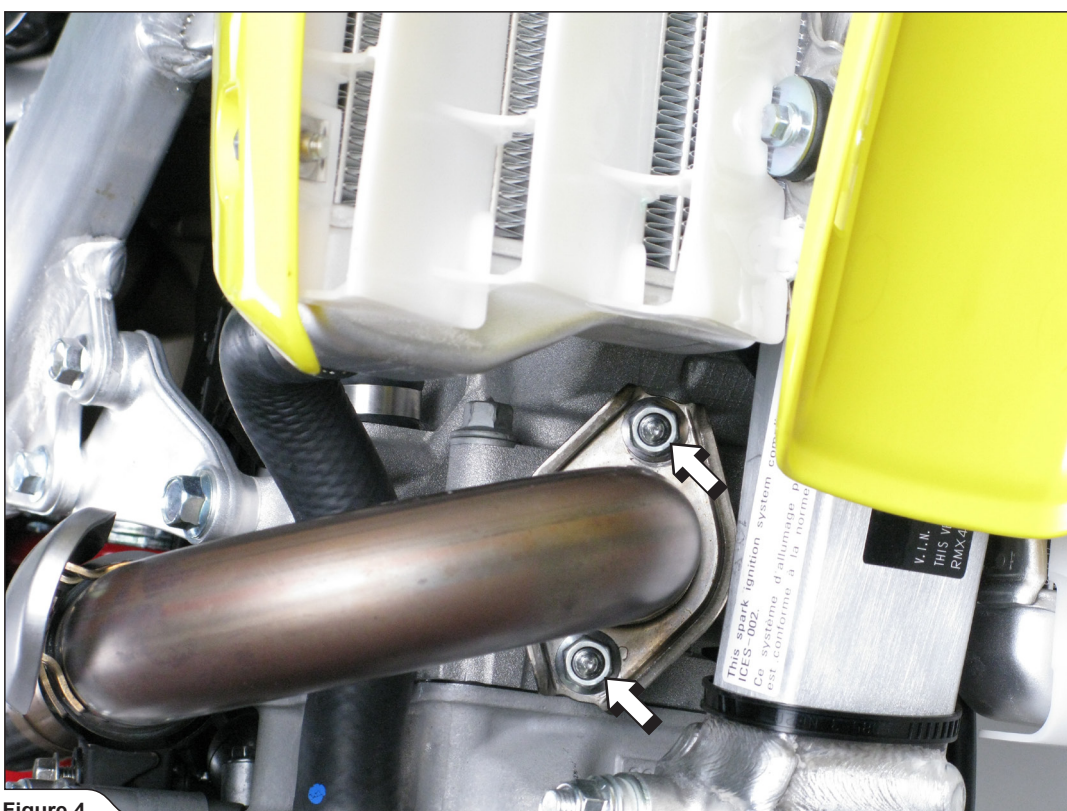

Figure 4
5. Unscrew the two marked nuts and carefully remove the stock header pipe off the motorcycle (Figure 4).